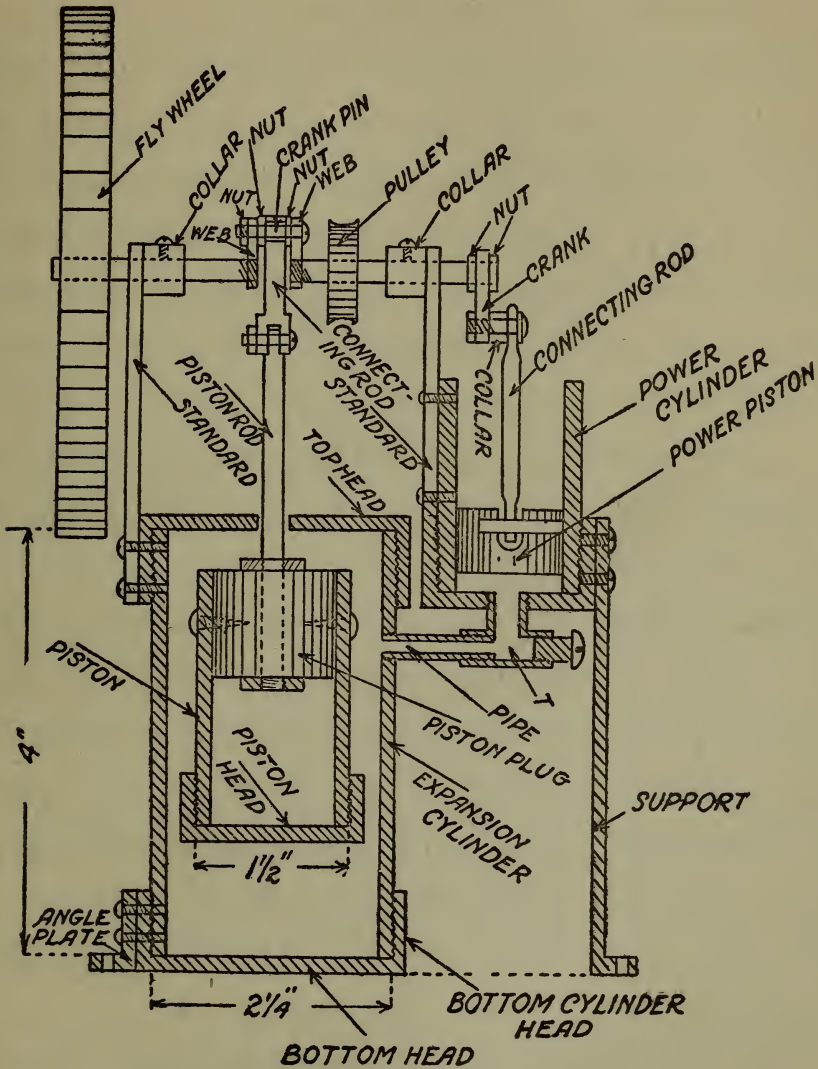

Fig. 67. Cross-Section of Hot-Air Engine
**The Parts of the Engine.**—There are six principal parts to a hot air engine; namely, (1) the *displacement*, or *expansion cylinder* in which the air is heated and cooled; (2) the *displacement* or *transfer piston* with its *piston rod* and *connecting rod*; (3) the *power cylinder* where the working force is developed; (4) the *power connecting rod*; (5) the *crankshaft* with its *cranks*, *pulley* and *flywheel*, and (6) the base which holds the lamp or forms the furnace for developing the heat.
**Making the Engine.**—*The Expansion Cylinder.*—The expansion cylinder, as shown in Fig. 67, is the large one; it is made of a piece of iron pipe with a  $\frac{1}{8}$ -inch thick wall,  $2\frac{1}{4}$  inches in diameter outside measurement, and 4 inches long, and is threaded at both ends.